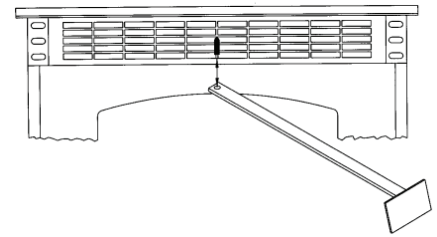

FIGURE 22
- With the door closed clean heat exchanger tubes. (See "CLEANING" and Figure 22).
- Clean heat exchanger tubes (see "CLEANING" and Figure 22).
- Heat Exchange Tubes** – Your Breckwell stove is designed with a built-in heat exchange tube cleaner. This should be used every two or three days to remove accumulated ash on the tubes, which reduces heat transfer on the P24. Insert the handle end (with hole) of the cleaning tool onto the cleaning rod (refer to figure 22). The cleaner rod is located in the grill above the stove door. Move the cleaner rod back and forth several times to clean the heat exchanger tubes. Be sure to leave tube cleaner at the rear of the stove.